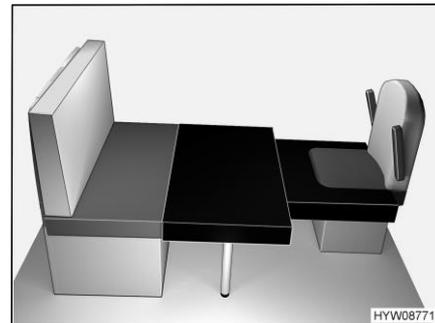

Fig. 79 After conversion
- Place big additional cushion on the table top (Fig. 79).
- Place small additional cushion on the driver's seat (Fig. 79).